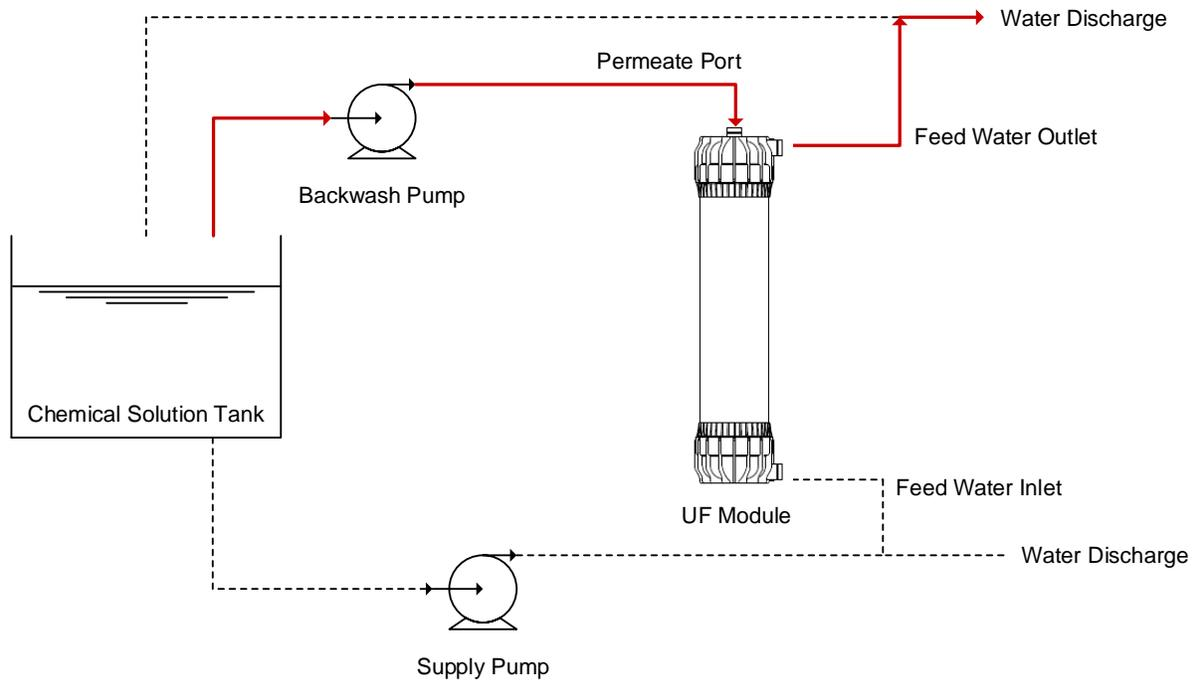

Figure 3. Backwash flow where discharge water exists the feed water outlet port.
- b. Next, feed the water from the permeate port at up to 0.1 Mpa and discharge it from the outlet feed port and close the inlet feed port (see Figure 3). This should take about one minute (approximately 300 L or 80 gal).